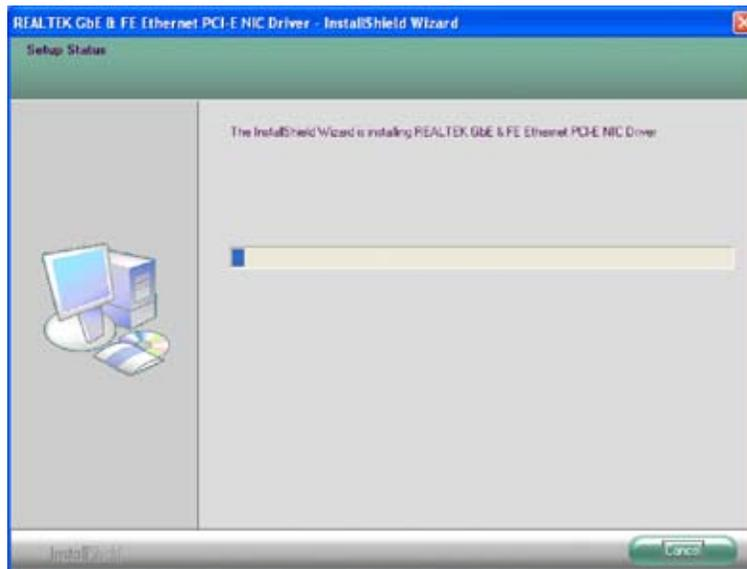

Figure 6-18: LAN Driver Installation
Step 43: The installation progress can be monitored in the progress bar shown in Figure 6-18.